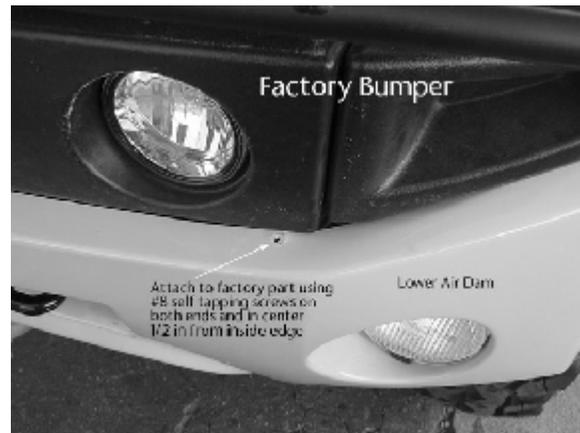

Fig 8
5. With the hood closed and Air Dam unattached to the Bumper Cover, locate mounting points for screws as shown in Fig 8 and screw Air Dam in place.